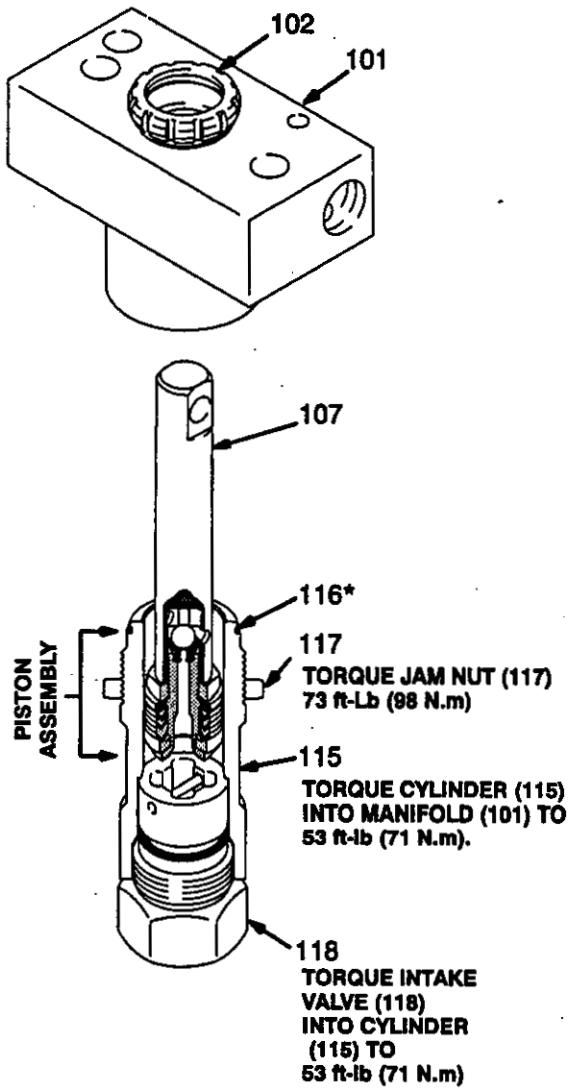

Fig 24 \_\_\_\_\_ 1717
10. Install the packing nut (102) and plug (124), but leave loose for now. See Fig 24.
11. Place a new o-ring (116\*) firmly in the cylinder groove. See Fig 24.
12. Coat the piston rod and packings with oil. Carefully slide the assembly **INTO THE TOP OF THE CYLINDER (115)**. See Fig 24.
13. Place the intake valve (118) in a vise and assemble its parts. See page 21. Screw the cylinder (115) onto the valve (118). Turn the jam nut (117) all the way down. See Fig 24.
14. Put the manifold in a vise. Guide the rod/cylinder assembly up through the manifold (101). Screw the cylinder (115) into the manifold and tighten to 53 ft-lb (71 N.m). See Fig 24.
15. Tighten intake valve (118) to 53 ft-lb (71 N.m). See Fig 24.
16. Tighten the cylinder jam nut (117) to 73 ft-lb (98 N.m). See Fig 24.